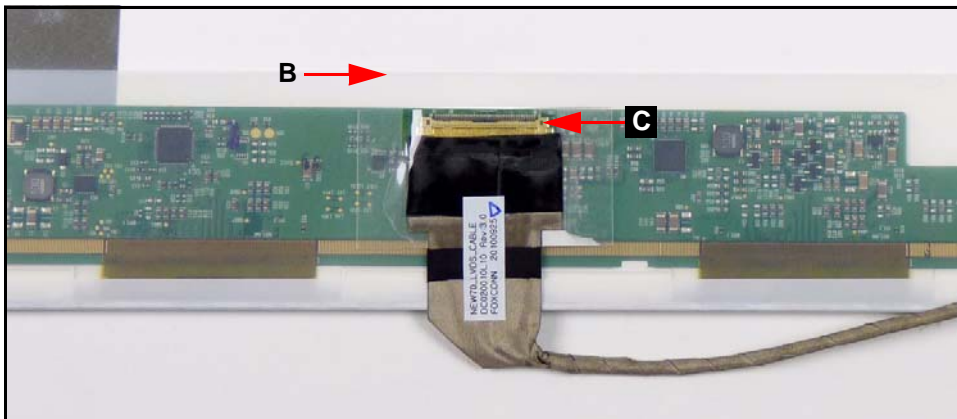

Figure 3-50. LVDS Cable
2. Starting from the top, remove the clear mylar tape (B). (Figure 3-50)
3. Disconnect the LVDS cable from the LCD panel connector (C). (Figure 3-50)
(Figure 3-50)